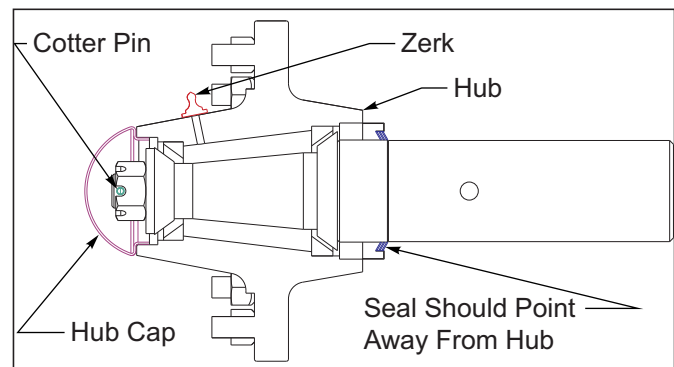

Figure 4-14: Triple Lip Seal
The triple-lip seals should point away from the hub to keep contaminants out and allow grease to pass See Figures 4-14.
11. Install a new cotter pin and replace the hub cap. See Figures 4-14.